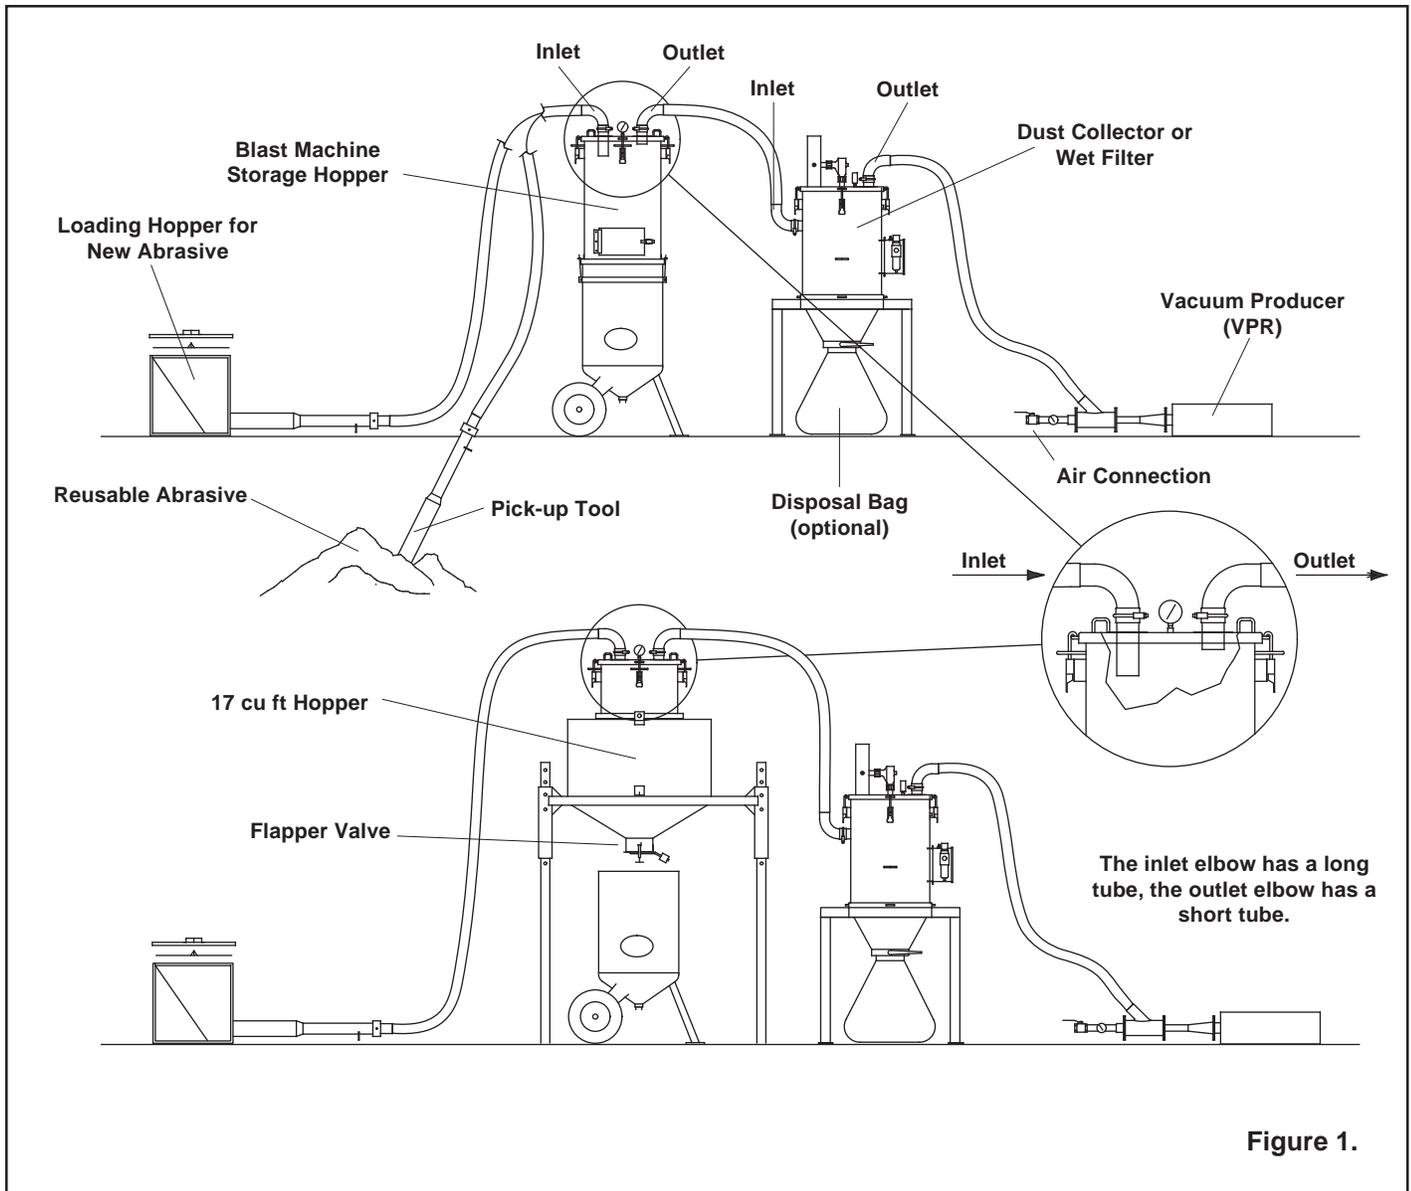
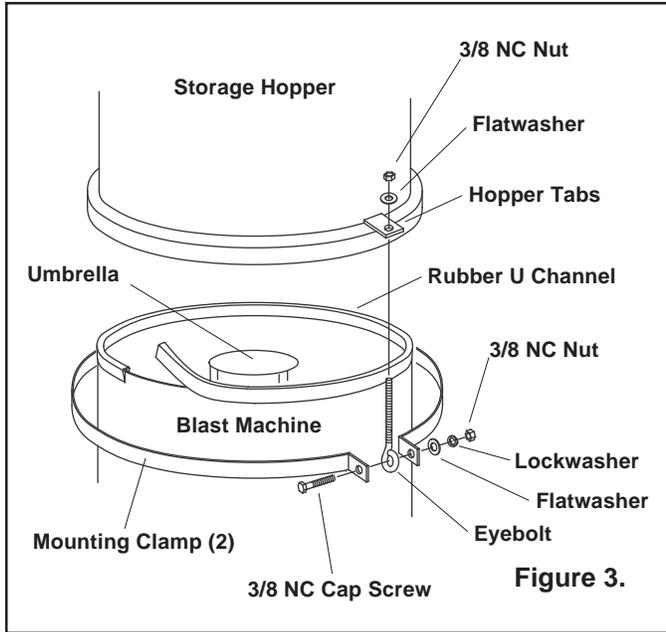
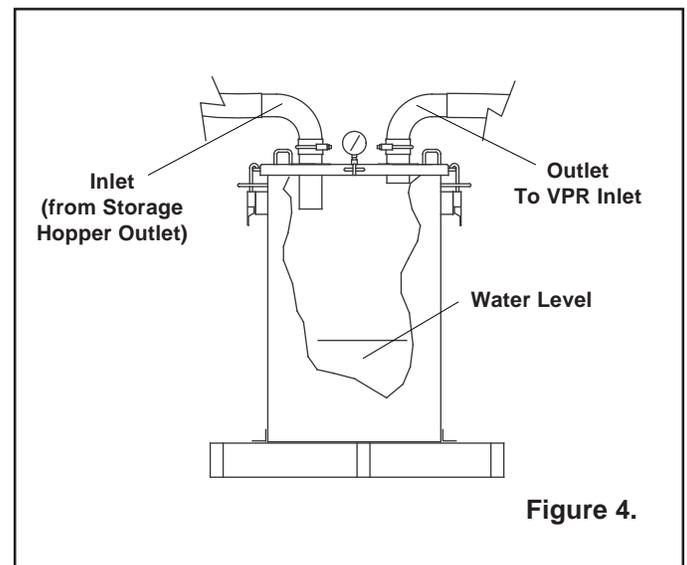

Figure 1.
Figure 3.
Figure 4.
**1.3 General Description:** The layout and components of the Easy Load systems are shown in Figures 1 and 2. The only difference between the two systems shown in the figures, is that one uses a 6 cubic foot storage hopper mounted on the blast machine, while the other uses the larger free-standing 17 cubic foot hopper. Figure 1 shows them set-up for loading, Figure 2 shows them set-up for recovery of spent abrasive.
The illustrations are shown with the reverse pulse dust collector. See Figure 4 for an illustration of the wet-filter. All connections, regardless of the dust containment options are the same as shown in Figures 1 and 2.
**1.4.2 Loading Mode:** (See Figure 1) The Easy Load is a pneumatic abrasive loader which can move new or reusable abrasive from the loading hopper to the blast machine storage hopper, or the pick-up tool can be removed from the loading hopper to load piled abrasive. The system can be truck or trailer mounted for portable use or used in a permanent facility.
**3.1.1** The following text explains the set-up for using the Easy Load in the loading mode. Set-up for recovery is the same except a recovery container is used in place of the blast machine storage hopper. If the 17 cubic foot hopper is used the only difference is the blast machine is removed from under the hopper and replaced with a disposal drum. See Figure 1 for loading set-up, Figure 2 for recovery set-up.
**3.1.2** The illustrations in Figures 1 and 2 shows the optional reverse pulse dust collector. Set-up for the wet-filter is the same as the dust collector with the exceptions noted in section 3.6.1. See Figure 3 for wet-filter illustration.
### 3.2 Set-Up (Refer to Fig. 1 and 2).
**3.3.1** Attach the mounting clamps to the blast machine as shown in Figure 3. The top of the clamps should be approximately 2" to 3" from the top of the machine. Consideration must be given to where the access door should be located, before securing the mounting clamps.
**3.6.1 Wet-filter**, Figure 4: for assembly of the reverse pulse dust collector see section 3.6.2.